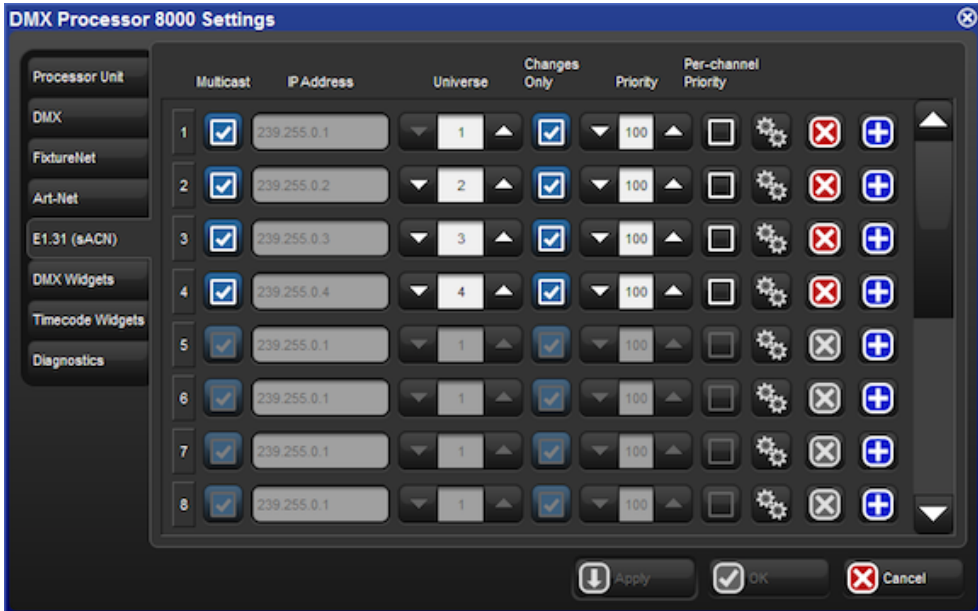

Figure 3.12. E1.31 pane of the DMX Processor Settings window
3. Select the E1.31 pane of the DMX Processor Settings window, see *Figure 3.12, “E1.31 pane of the DMX Processor Settings window”*.